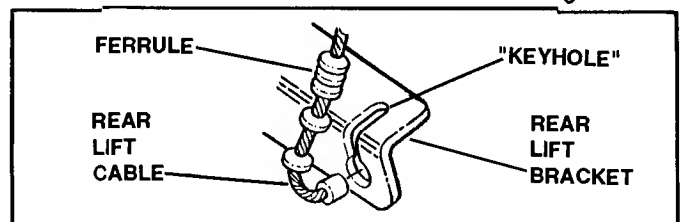

FIGURE 34
8. Using the small stick as a lever, lift up rear of deck and disconnect the rear lift cables. See Figure 34.